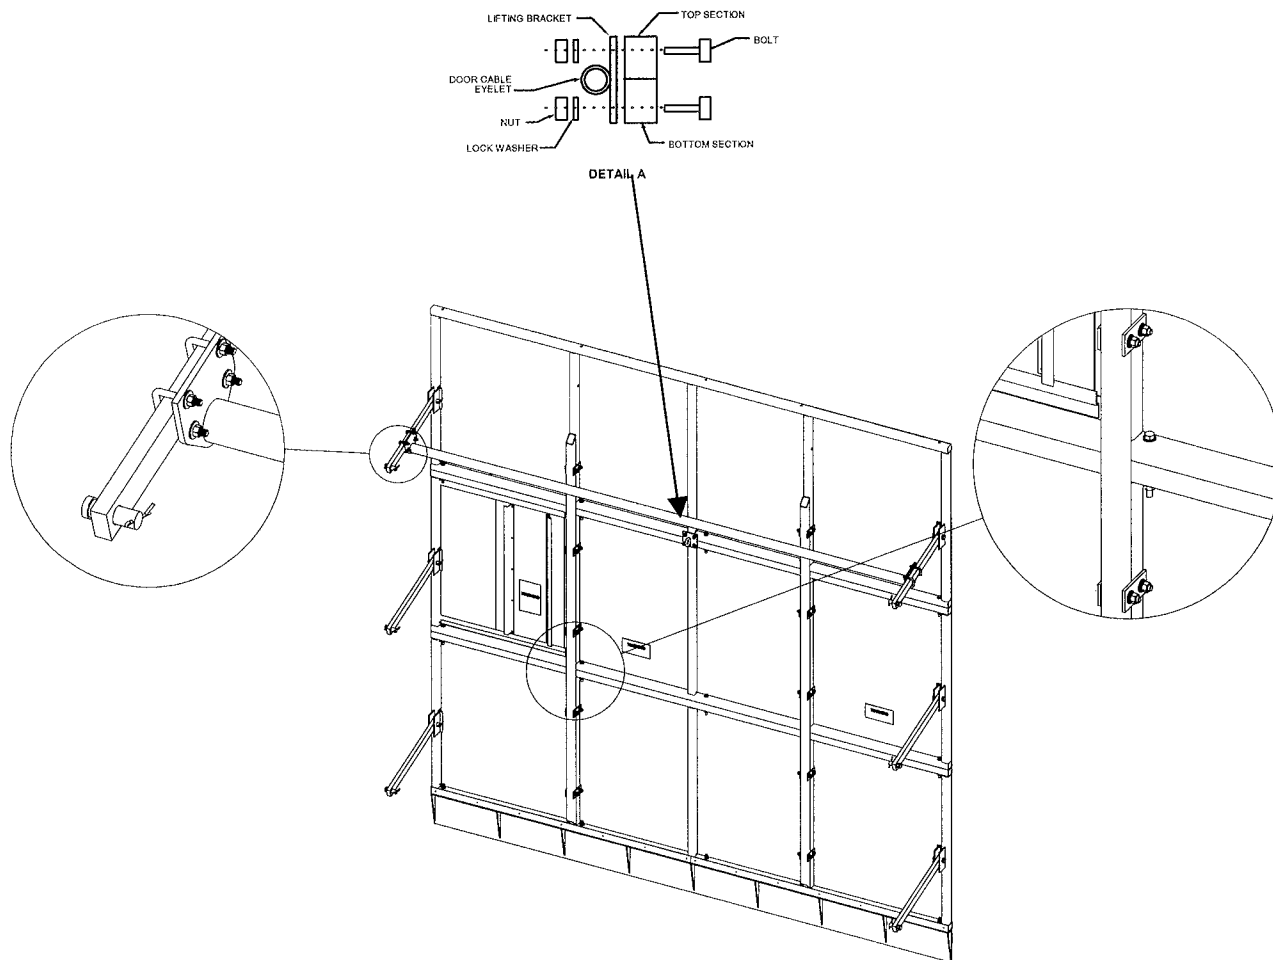
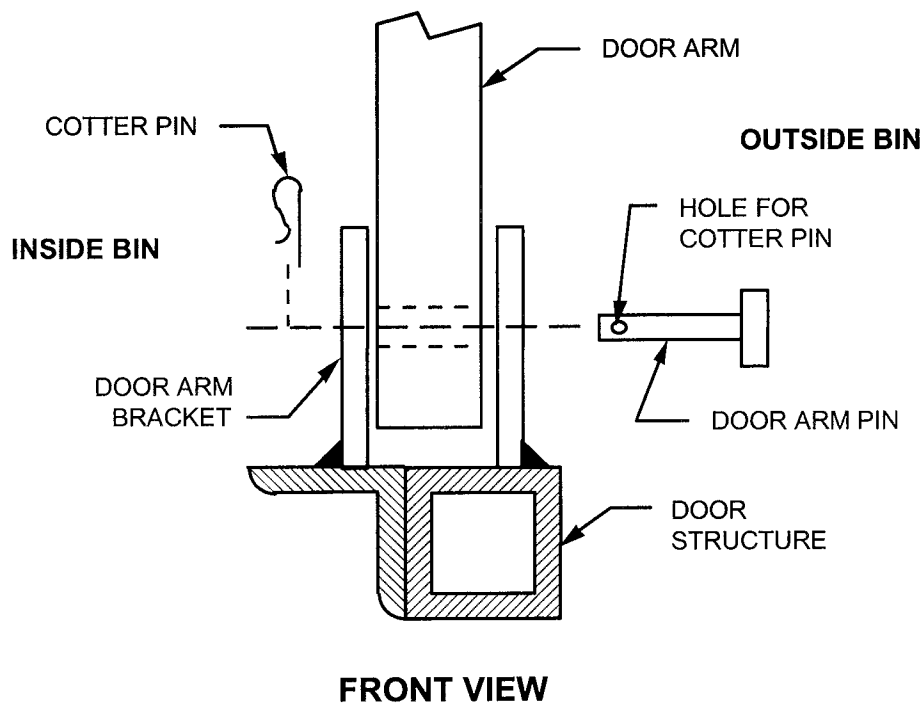
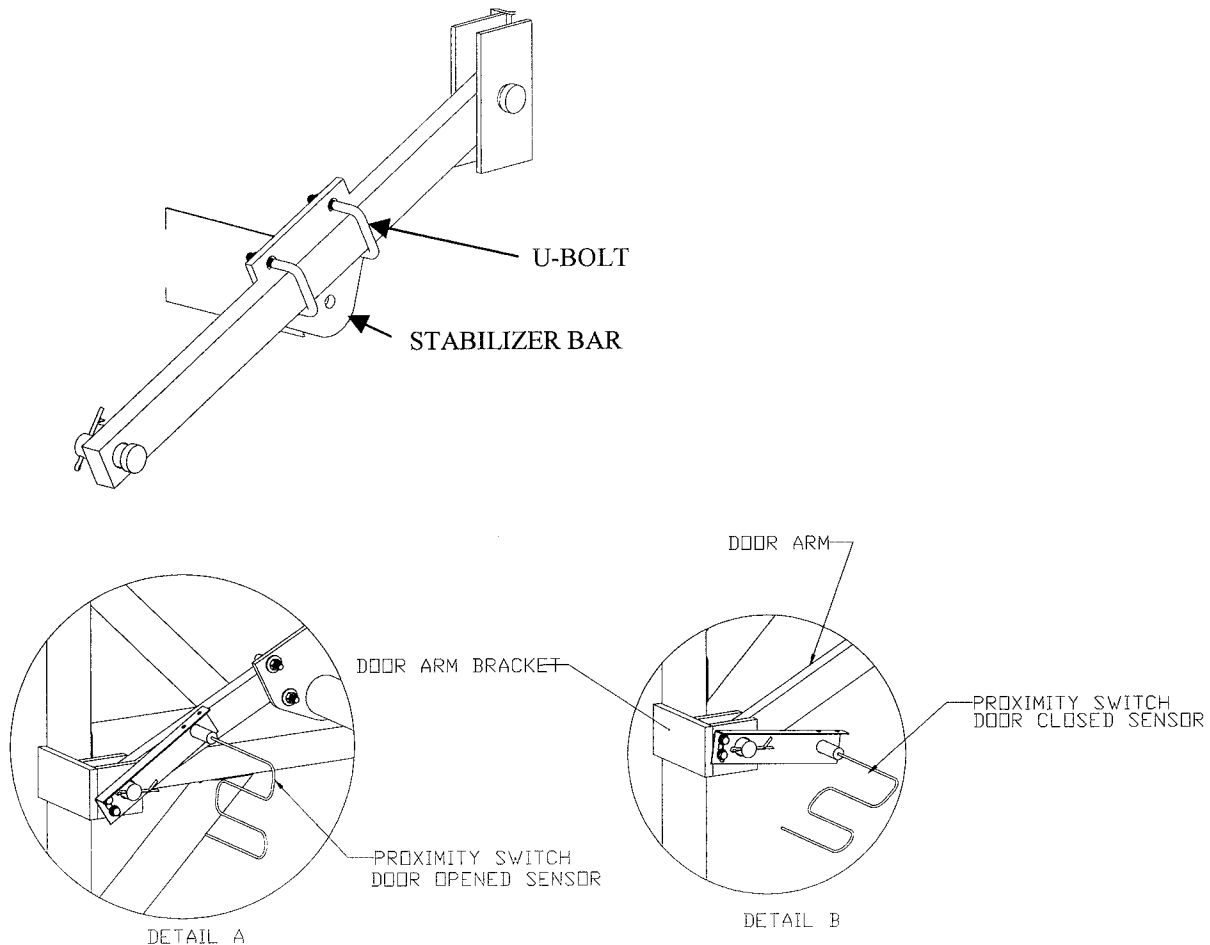

Figure 3-46 Typical Three Section Door
Figure 3-47 Bin Door Arm Detail
Figure 3-48 Door Arm Stabilizer and Limit Switch Installation
Lay the door section out on the floor in the order shown on the bin door drawing provided. Figure 3-46 and Figure 3-47 show typical arrangements of the two (2) and three (3) section doors. The installation of all doors will be similar to the two samples shown. Doors with two sections will have an access door as shown in Figure 3-46 and 3-47.
Using the hardware provided (Figure 3-47), bolt the sections together on the floor. Bolt the door lift bracket to the door at the joint between the top and middle or bottom sections. Install the bin door arms to the door brackets on the door. Use the pins shipped with the door arm. Be sure to put the cotter pin in place after inserting the pin. Insert the door arm pin from the outside in toward the inside of the rake. Refer to Figure 3-48.
6. Insert the bolts between the two (2) sections and tighten (finger tight) as shown in Figure 3-47.
8. Repeat for the top section on the three (3) section doors.